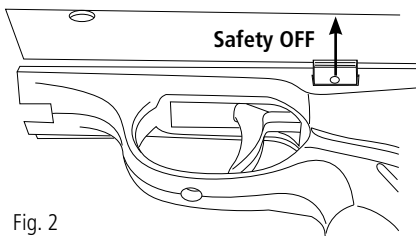

Fig. 2
- To put the safety to "OFF", push the safety button to the left. In this position, the gun is ready to shoot. (Fig. 2)